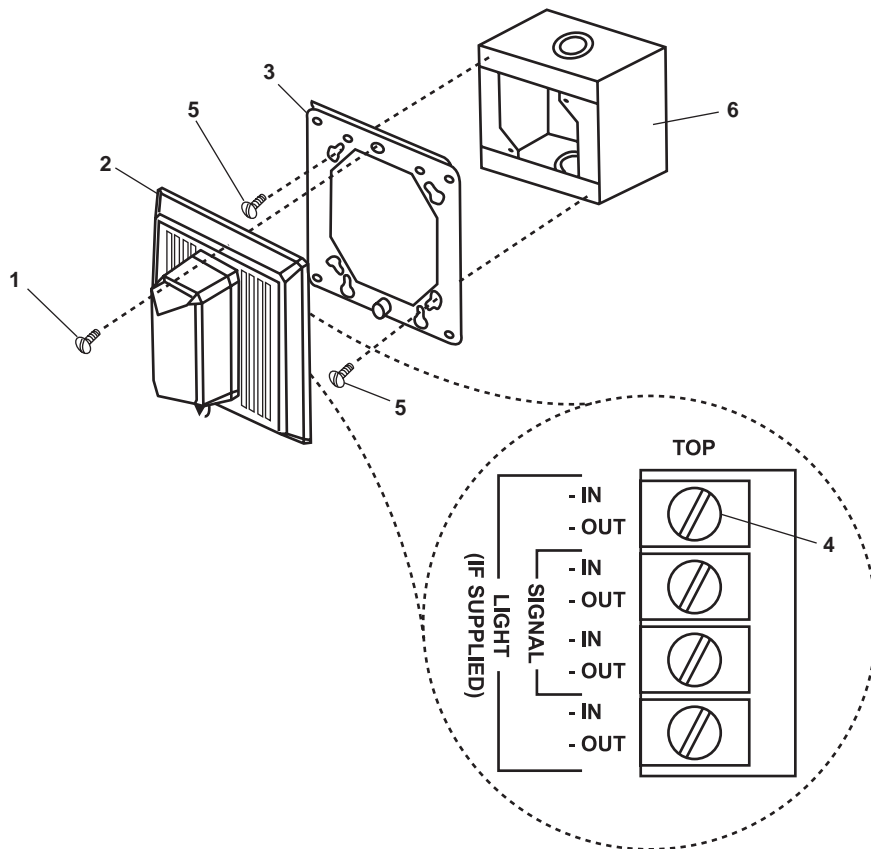

Figure 3. Horn/Strobe Assembly
1. Remove the two screws (figure 3, item 1) that secure the horn/strobe (figure 3, item 2) to the mounting plate (figure 3, item 3).
2. Use a multimeter to check for voltage at the terminal board (figure 3, item 4). If voltage is present, ensure that the correct circuit breaker is set to OFF, locked out, and tagged out (FM 55-502.) If no voltage is present, continue with the procedure.
3. Label and disconnect the wires from the terminal board (figure 3, item 4).
4. Remove the two screws (figure 3, item 5) that secure the mounting plate (figure 3, item 3) to the junction box (figure 3, item 6).
1. Install the mounting plate (figure 3, item 3) on the junction box (figure 3, item 6) and secure it with the two screws (figure 3, item 5).
2. Connect the wires to the terminal board (figure 3, item 4) using the labels from step 3 of Removal as a guide. Discard the labels.
3. Install the horn/strobe (figure 3, item 2) on the mounting plate (figure 3, item 3) and secure it with the two screws (figure 3, item 1).